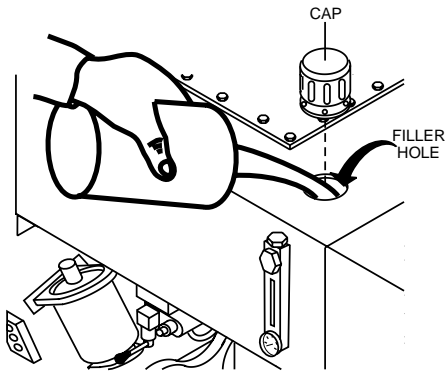
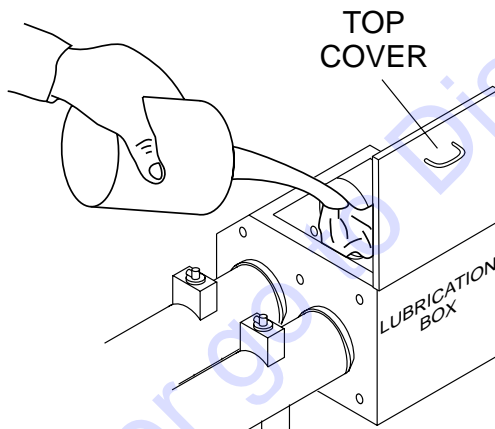

Figure 14. Adding Hydraulic Oil (Filler Hole)
Figure 15. Filling the Lubrication Box
2. If the hydraulic oil level is low, remove the hydraulic oil tank cap just above the oil level sight glass (Figure 14) and add the correct amount of hydraulic oil to bring the hydraulic oil level to a normal safe operating level. Use Shell oil Tellus 46.
3. Check the oil level in the **lubrication box** (Figure 15). If low, fill with up to 4.4 gallons of SAE #30 motor oil (Figure 14). The oil level must be checked daily. The lubrication box should be serviced as described in the maintenance section.